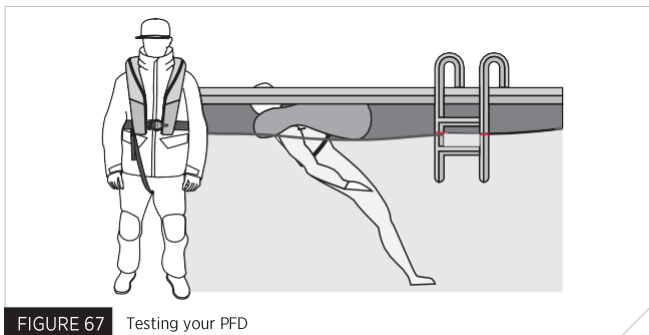

FIGURE 67 Testing your PFD
Your PFD should be tested whilst wearing foul weather or offshore clothing. Some foul weather or offshore clothing can trap air which may affect the performance of the PFD (Fig. 67).
A4. See if the PFD will float you on your back or just slightly back of vertical. In a relaxed floating position, verify that your mouth is well above the water's surface. Note the effect of where you hold your legs on how you float (Fig. 67).
M5. See if the PFD will float you on your back or just slightly back of vertical. In a relaxed floating position, verify that your mouth is well above the water's surface. Note the effect of where you hold your legs on how you float (Fig. 67).
06. See if the PFD will float you on your back or just slightly back of vertical. In a relaxed floating position, verify that your mouth is well above the water's surface. Note the effect of where you hold your legs on how you float (Fig. 67).